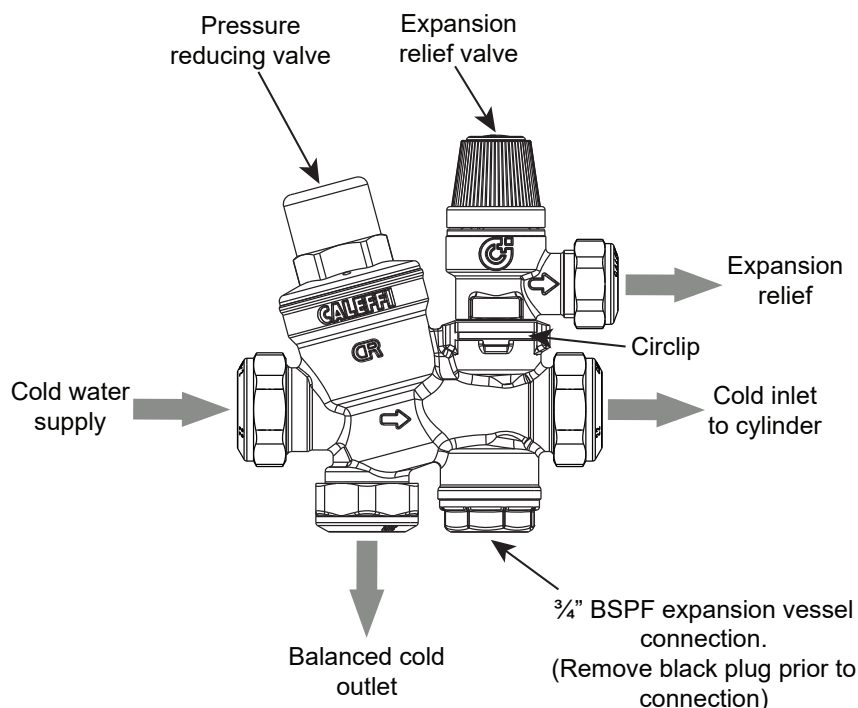

Figure 4-1: Cold water inlet manifold
A balanced cold water connection is provided on the inlet manifold. Refer to Figure 4-1. This should only be used to provide balanced cold supplies to shower valves and mixer taps. If the balanced cold water outlet is not required, blank off this port.
3. Once the pipework is flushed connect the cold supply to the Inlet manifold. Refer to Figure 4-1 for location and Figure 4-1 for a detailed drawing of the manifold. A service valve (not supplied) must be fitted in the cold supply to the cylinder
6. Connect the expansion vessel directly to the ¾" BSPF connection in the inlet valve manifold body, after removing the black plastic plug (see Figure 2-1 for location and Figure 4-1 for a detailed drawing of the manifold). Refer to Section 4.4 for more information on fitting the expansion vessel.
The preferred method of connection is to hard pipe the expansion vessel directly to the  $\frac{3}{4}$ " BSPF connection in the inlet valve manifold body using 22mm diameter pipe. Refer to Figure 4-1.
1. Remove the black plastic plug from the inlet manifold body (refer to Figure 4-1).